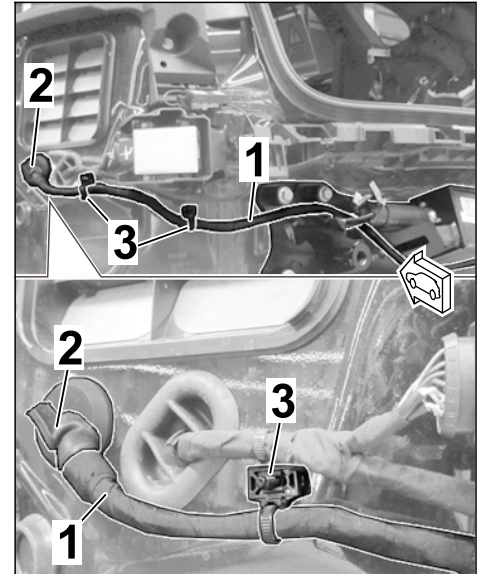

Figure 8
2.2.3 Fit tie-wraps for wire harness (2 x) on threaded bolts on the outside of the vehicle (⇒ *Figure 8*).